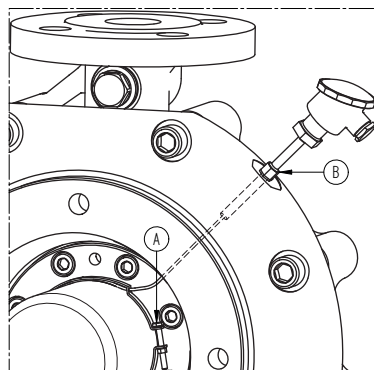

Figure 15: Inside connection of temperature sensor.
- 6 If the pump is equipped with a temperature sensor carefully remove the hose clamp by untightening screw A (figure 15). Then loosen B and remove the connection head together with the connection tube, guiding at the same time the temperature sensor from the inside through the hole.
- 19 If the pump is equipped with a temperature sensor, guide the temperature sensor from the outside through the hole and mount the connection head and tube to the intermediate cover. Then guide the temperature sensor through the hole in the hose clamp and mount the hose clamp in the position as shown in figure 15.